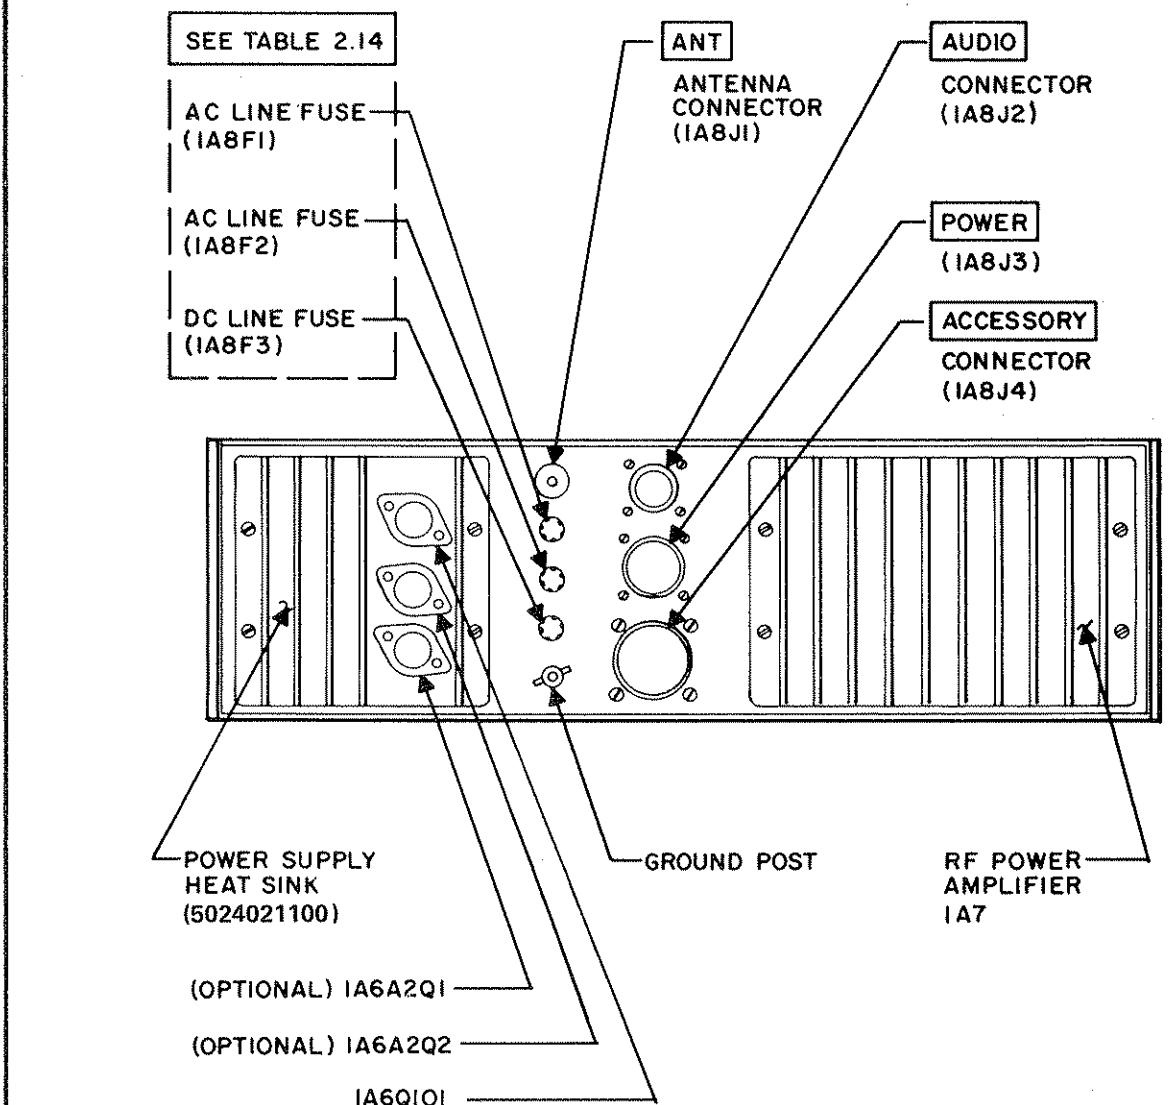

Figure 3.3 GSE-924 Rear Aprons Components and Connectors
3.4.1 Refer to Figure 3.3 for location.